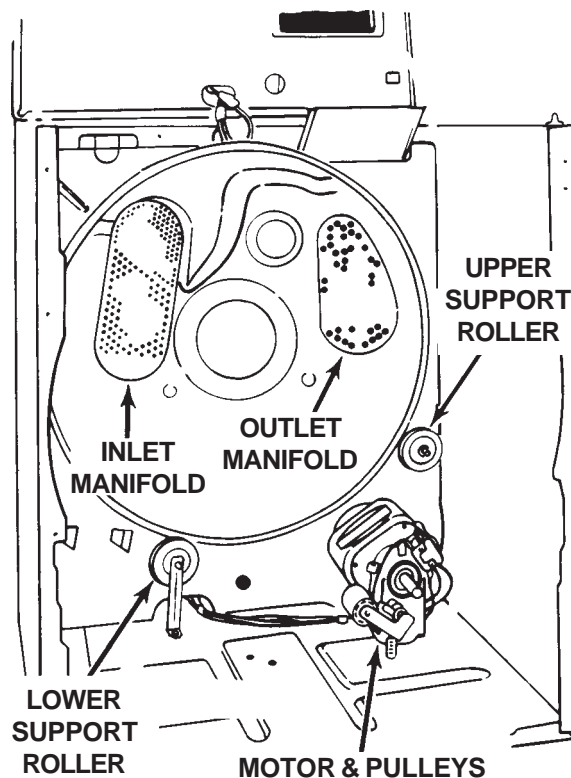

Fig. 3-11
2. Rest the rear of the drum on the support rollers on the rear bulkhead. (Fig. 3-11)